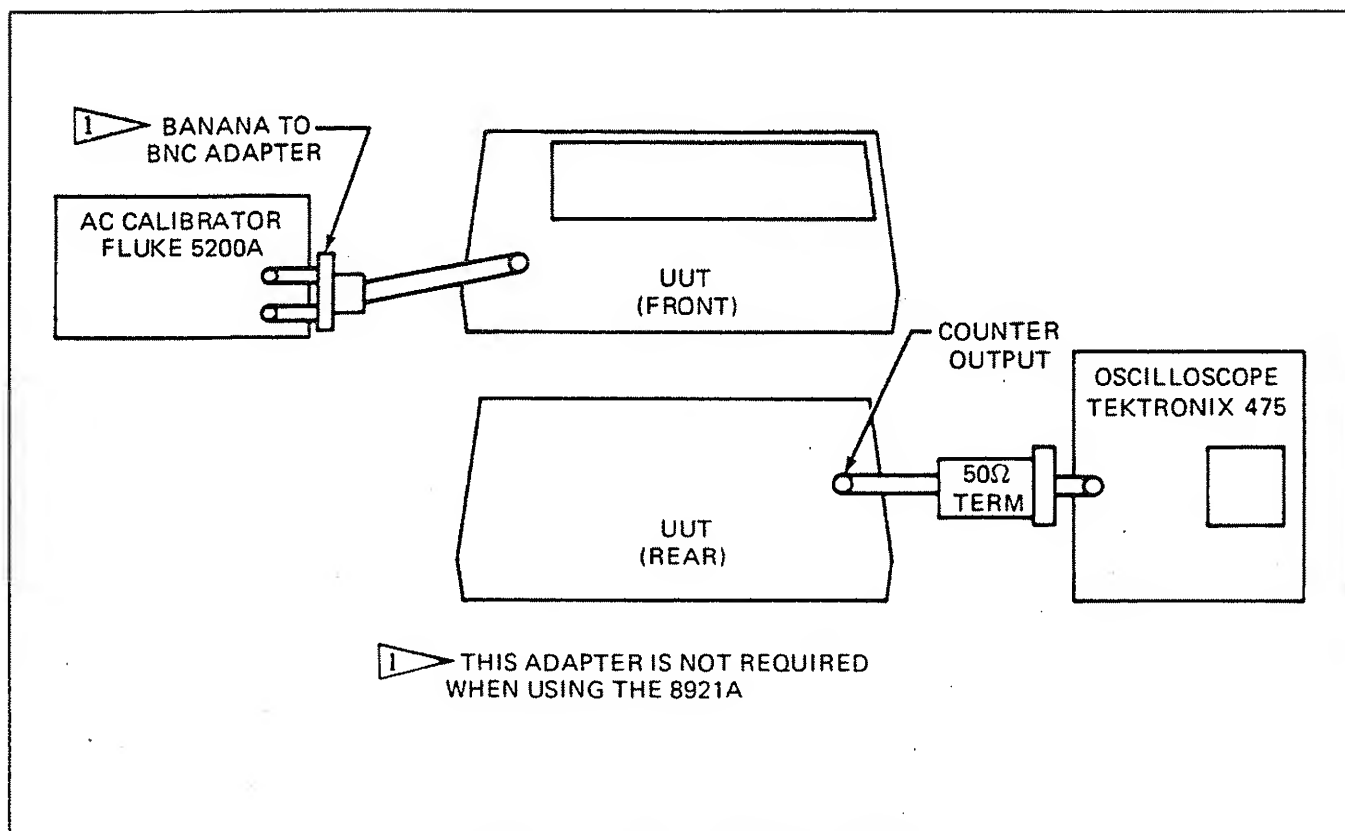
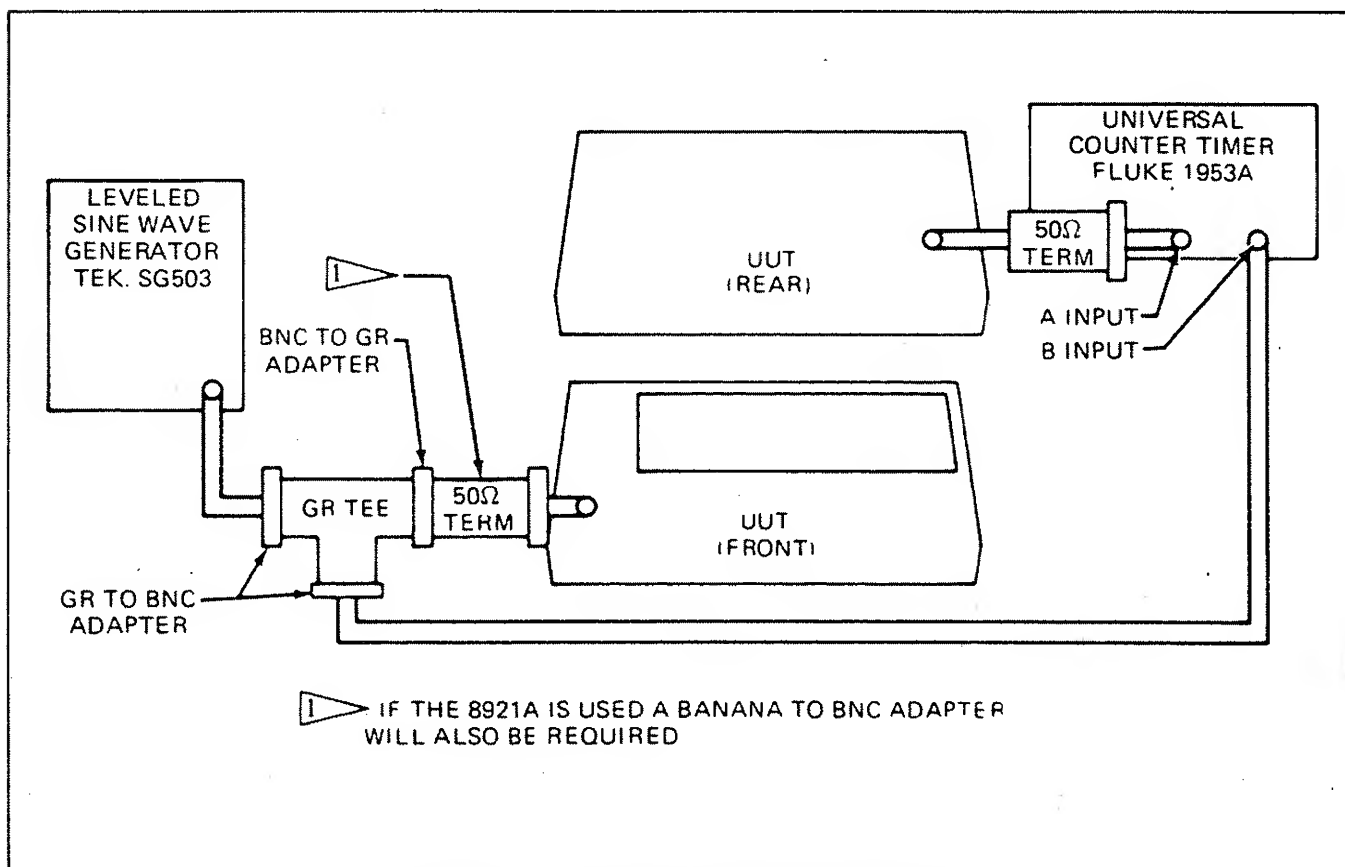
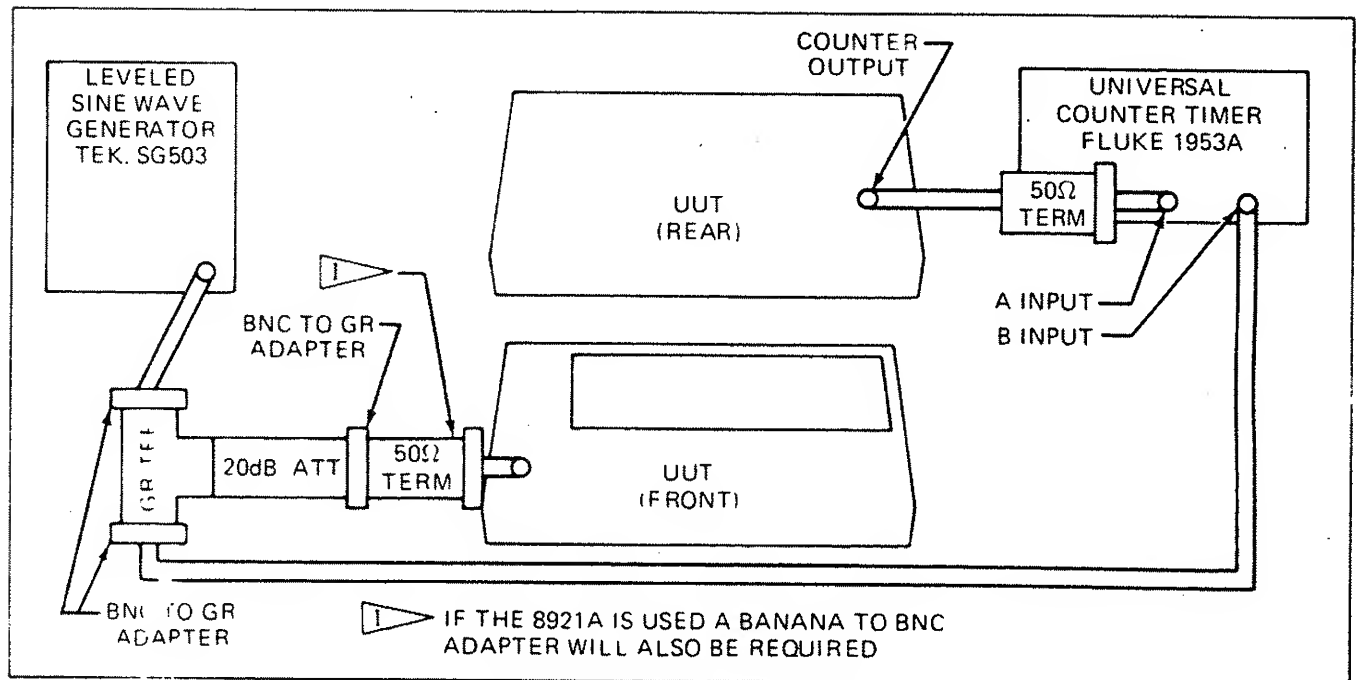

Figure 603-3. Counter Output Performance Set-Up
Figure 603-4. Counter Output Performance Test Set-Up
Figure 603-5. Calibration Set-Up
1. Connect the AC Calibrator, UUT, oscilloscope and termination as shown in Figure 603-3.
4. Disassemble the setup as shown in Figure 603-3 and connect the SG503, UUT, and Universal Counter-Timer and terminations, as shown in Figure 603-4.
2. Connect the AC Calibrator, UUT, oscilloscope and terminations as shown in Figure 603-3.
5. Disassemble the set up as shown in Figure 603-3 and connect the SG503, UUT, Universal Counter-Timer and terminations as shown in Figure 603-5.